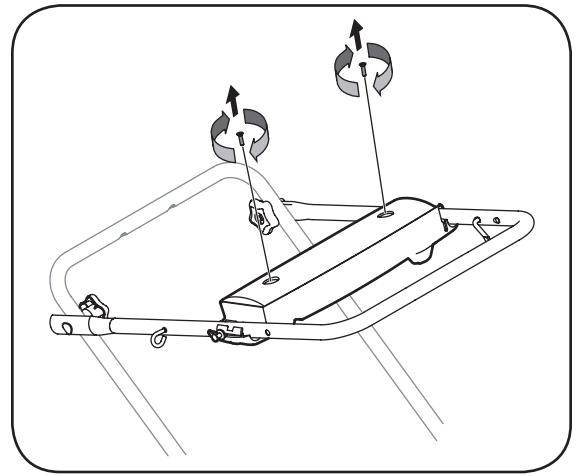

Figure 5-6
1. Loosen star knobs securing upper and lower handles and carefully fold the upper handle down toward the lower handle as shown in Figure 5-6.
2. Remove the two screws securing battery cover to battery housing and place them to the side. See Figure 5-6.
1. Open the battery cover as described in **Replacing Battery**. See Figure 5-6.